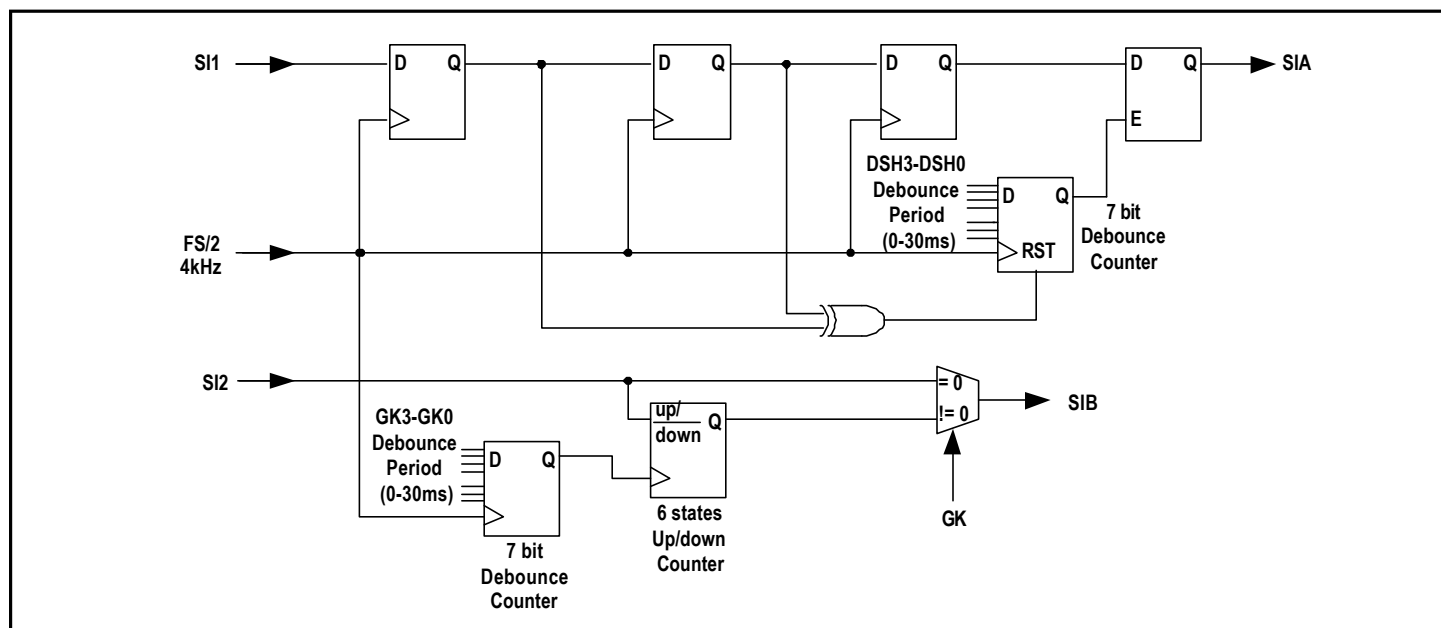

Figure 5. Debounce Filters
For each channel, IDT821054 provides two debounce filter circuits: Debounced Switch Hook (DSH) Filter for SI1 and Ground Key (GK) Filter for SI2 as shown in Figure 5. They are used to buffer the input signals on SI1 and SI2 pins before changing the state of the SLIC Debounced Input SI1/SI2 Register (Global Command 9). Frame Sync (FS) is necessary for both DSH filter and GK filter.